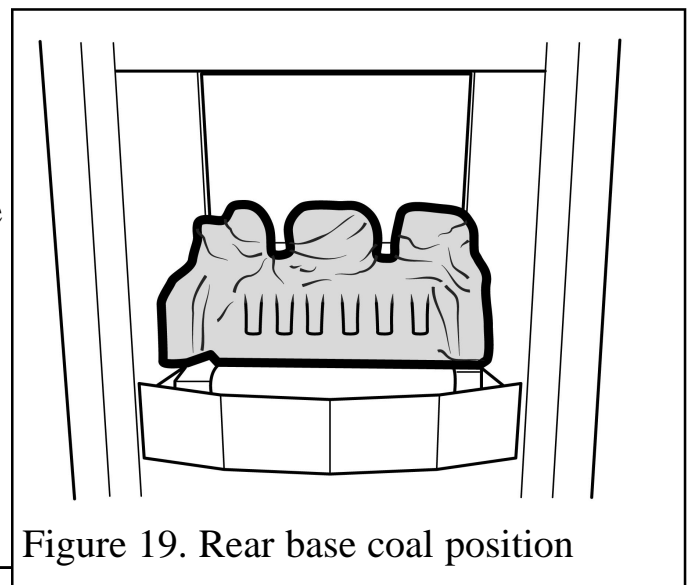

Figure 19. Rear base coal position
1. Place the rear base coal in the firebox. It should rest on the ledges at the rear sides of the burner unit. When located gently move the rear base coal so that it is as far forward as possible. The amount of movement will be negligible (See figure 19).